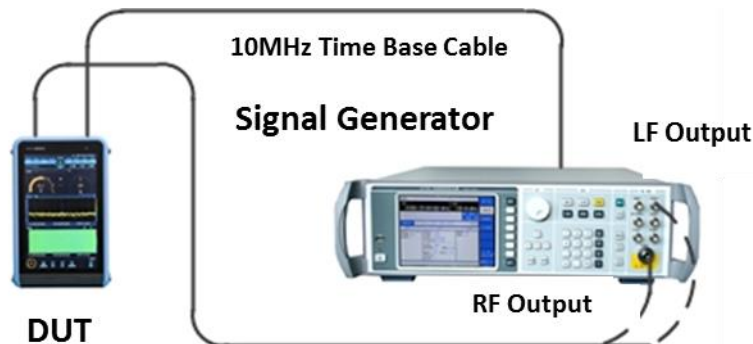

Figure 8.1 Diagram of the frequency span test
- 1) Connect the test equipment according to Fig. 8.1, the equipment to be tested and wait for the synthesized signal generator sharing a common time base, and connect the synthesized signal generator's low frequency output to the signal input of the equipment to be tested.